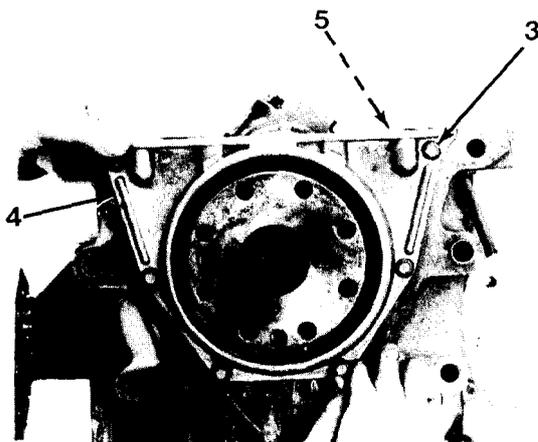

Figure 6-6
5. Using an 8 mm socket, remove six cap screws (3), rear cover (4) and gasket (5, Figure 6-6) from block. Remove all gasket material from mounting surfaces.
6. Support rear cover (4) on a suitable work stand.
1. Install gasket (5), rear cover (4) and six capscrews (3, Figure 6-6) to block. Torque six capscrews (3) to 7 lb-ft (9 N•m).